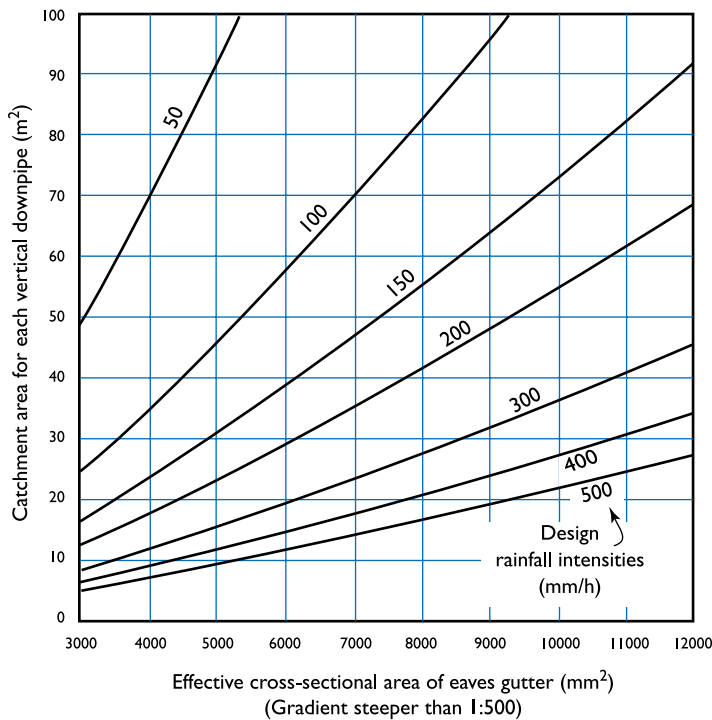

Figure 6.2.2
7. Using the cross-sectional area of the gutter on the graph in Figure 6.2.2, determine the catchment area per downpipe.
10. Returning to the graph in Figure 6.2.2, with the area of your eaves gutter, check that the catchment area for each downpipe, calculated in Step 9, is equal to or less than the catchment area shown by the graph.
SOLUTION (from Figure 6.2.2)